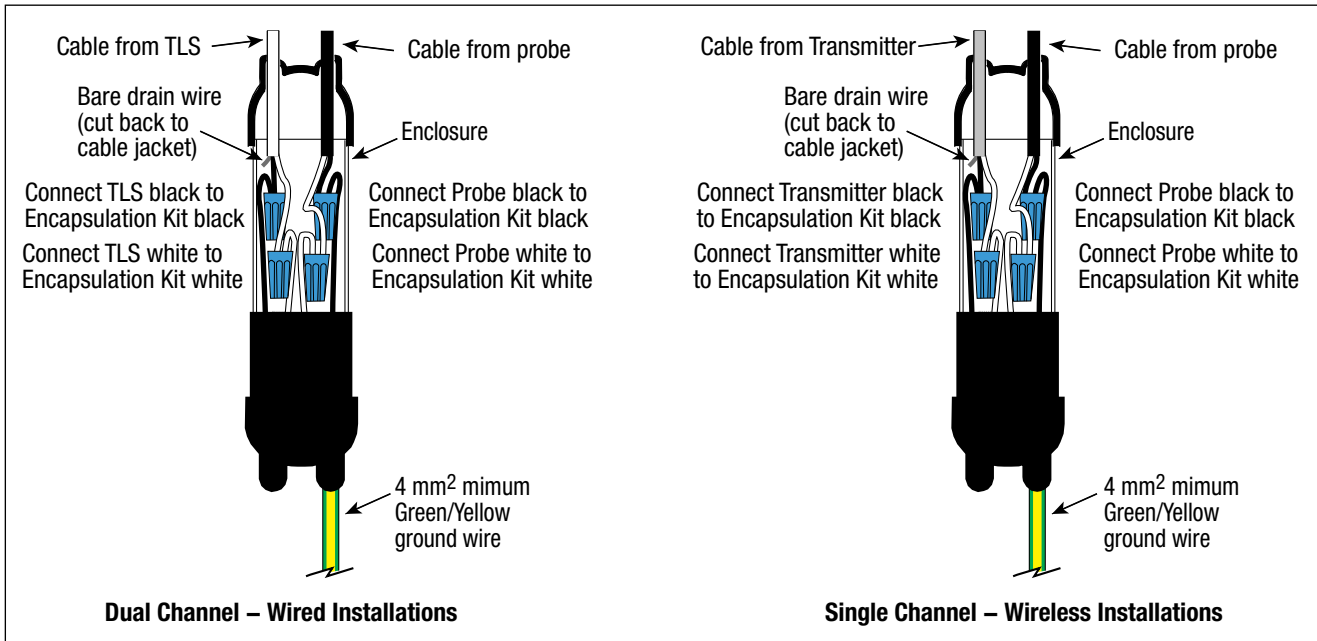

Figure 10. Splice Connections
2. Make the connections to the four black and white wires in the Encapsulation Kit using wire nuts as shown in Figure 10. Depending on the installation, cut off the TLS console or Transmitter cable's bare drain wire at the cable jacket.